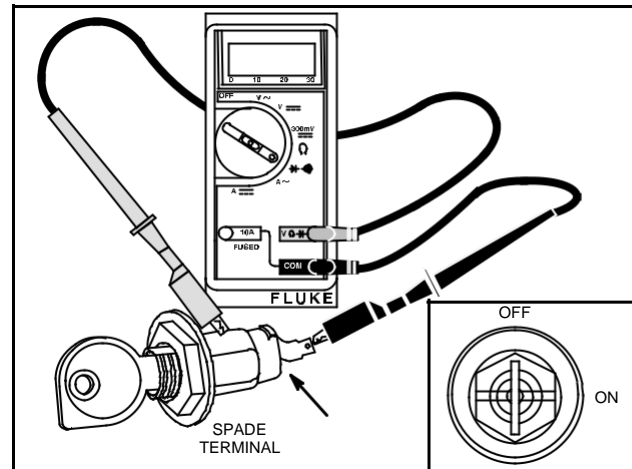

Fig. 35 – Check Rotary Stop Switch
4. Move key to "ON" position. There should be no continuity, Fig. 35.